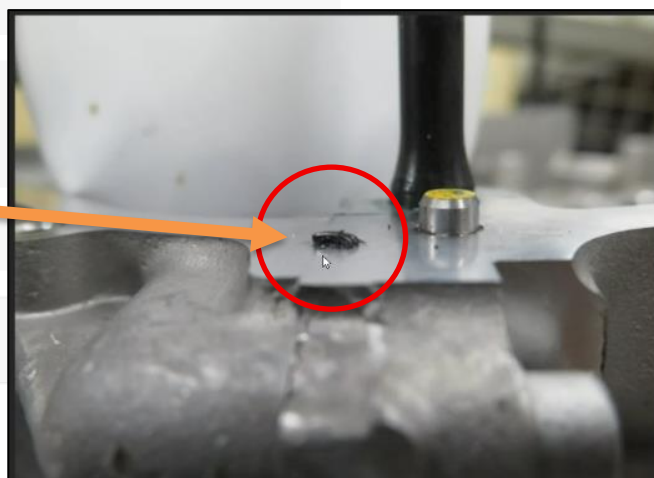

FIGURE 2
- Check for gasket protrusion into crankcase (Figure 2).